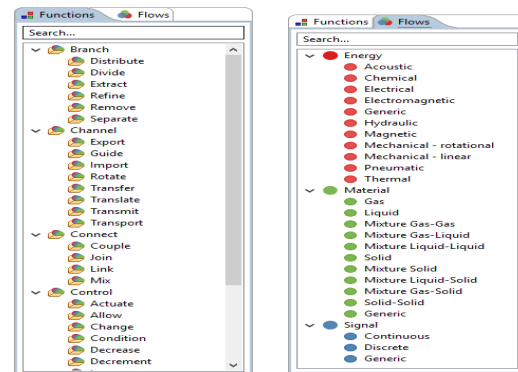

Figure B7: MADE Functions and Flows Tabs
- 1) Use the *Functions* option from the *Modeling* menu or right-click on the item being developed. This action will open the *Functions* and *Flows* window (Figure B6), and the modeler should select the appropriate functions for the item from that window's tabs (Figure B7).
Figure B6: MADE Functional Definition Interface - For example, the Sounding Rocket Pitch Valve's functionality (Figure B7) was represented by the "Convert" and "Regulate" functions. Electrical Current and Gas Static Pressure were selected as inputs (in-flows), and correspondingly they will be processed and yield "Gas Mass Flow Rate" as the component final output (out-flow).